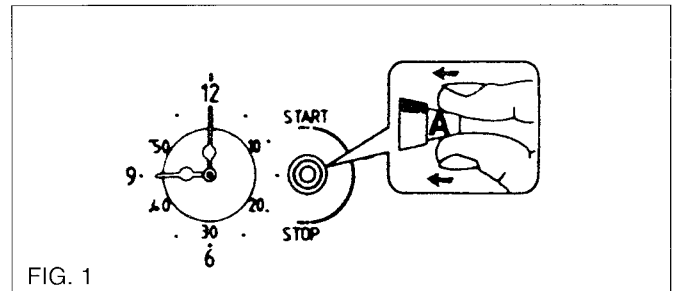

FIG. 1
Push in and turn the inner section of the control knob (A) in either direction until the correct time of day is shown. The clock will operate when the cooker is switched on at the wall. Fig. 1.
When the electricity supply is first switched ON, the display will flash both 00:00 and AUTO. See Fig. 1.